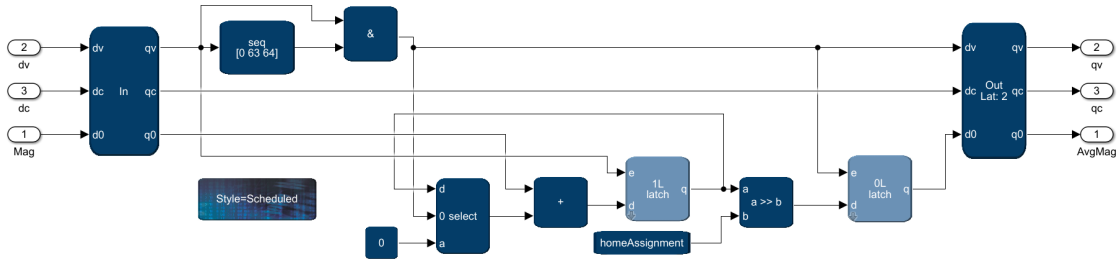

Figure 4: Contents of the AverageMagnitude subsystem.
- Construct the rest of the circuit according to Fig. 4. The only blocks that are new are the latches, which can be found in the **DSP Builder for Intel FPGAs - Advanced Block-set/Primitives/Primitive Design Elements** library. Make sure that you don't get overflow
in your addition by setting the data type of the output according to the results from your pre-lab calculations. Do the same for the constant controlling the number of bits to shift, marked **homeAssignment** in Fig 4. The data type of the output from the shift operation should be `fixdt(false, wordLength)`.